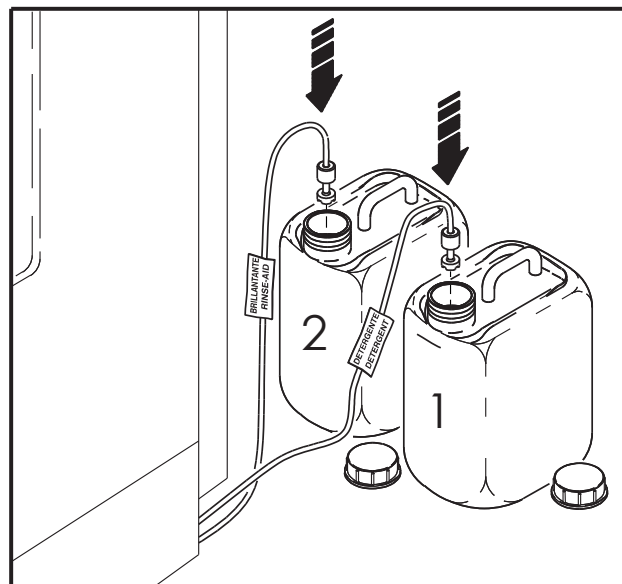

Fig. 22
- Check the level of rinse aid and detergent in the outer container, and replace if necessary (fig. 22)